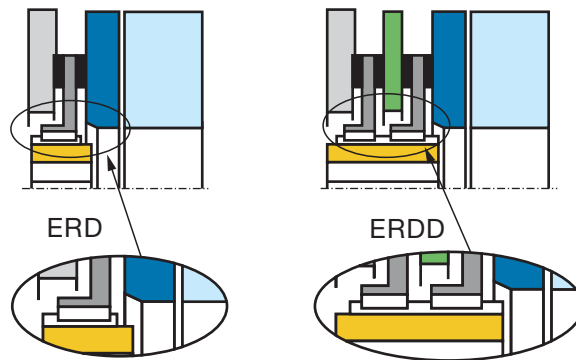

Fig. 2
-  It is important to note the hub mounting directions (See Fig. 2).
**NOTE:** The angle of the friction discs must be facing the friction plate (see Fig. 2).